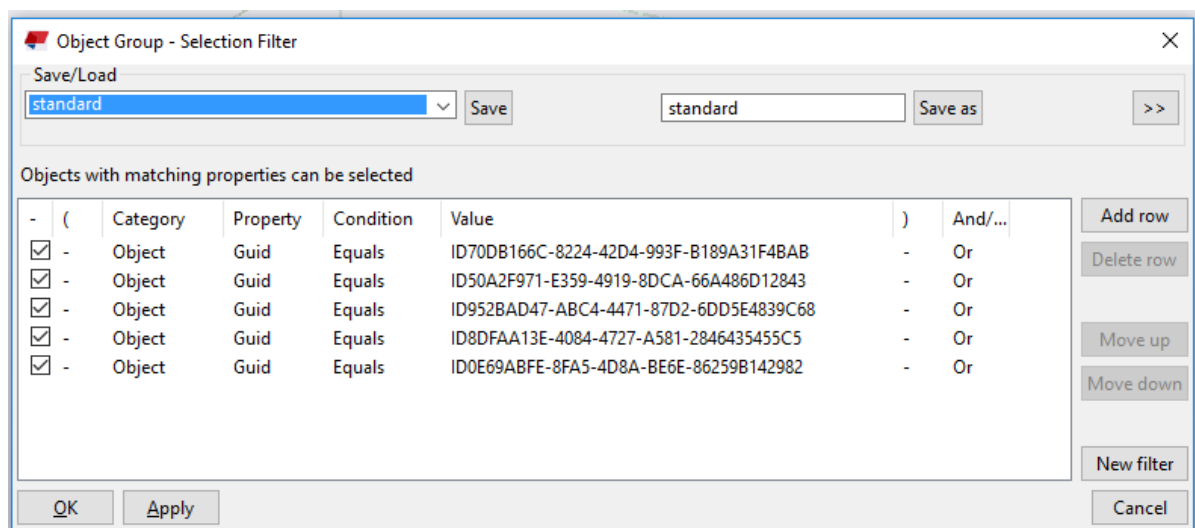

Figure 3-30
- c. Create filter definition according to the following rule (shown in Figure 3-30):
As you can see in Figure 3-30, when choosing *Copy Guid for Tekla*, the GUID is copied with the ID prefix (thus the division; FEM-Design requires GUID without the prefix).